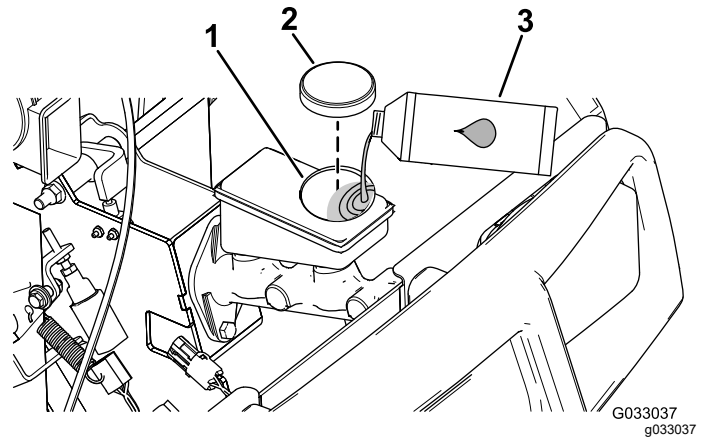

Figure 52
4. Raise the hood to access to the master brake cylinder and reservoir (Figure 52).
- A. Clean the area around the reservoir cap and remove the cap (Figure 52).
- C. Install the reservoir cap (Figure 52).